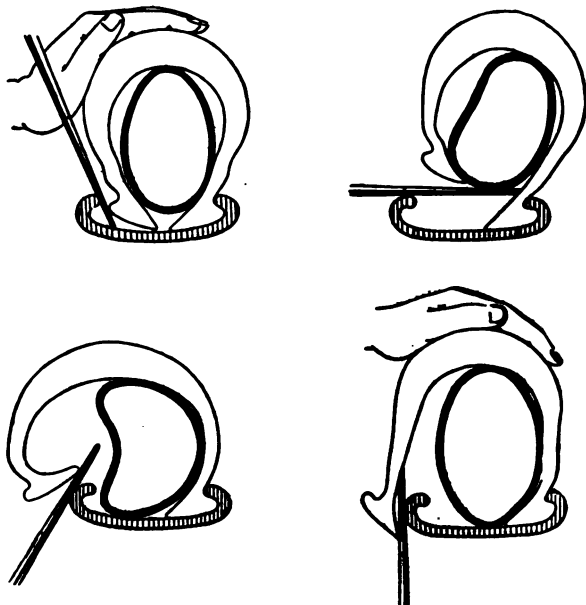

Figure 54.—Removing a Clincher Tire.
*Tires.*—The tires may be removed, as shown in Figure 54. First, jack the wheels clear of the road. The